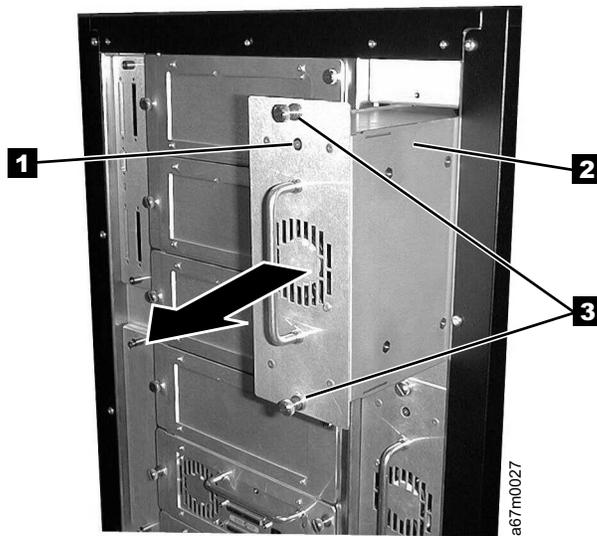

Figure 7-44. DC Power Supply Removal and Replacement
See Figure 7-44 on page 7-52 for locations of components in the following procedure.
4. Loosen the two captive thumbscrews **3** located on the back of power supply, see Figure 7-44 on page 7-52 and slide dc Power Supply out of the library.
**Before inserting dc Power Supply, be sure to orient Power Supply so LED indicator **1** is as seen in Figure 7-44.**